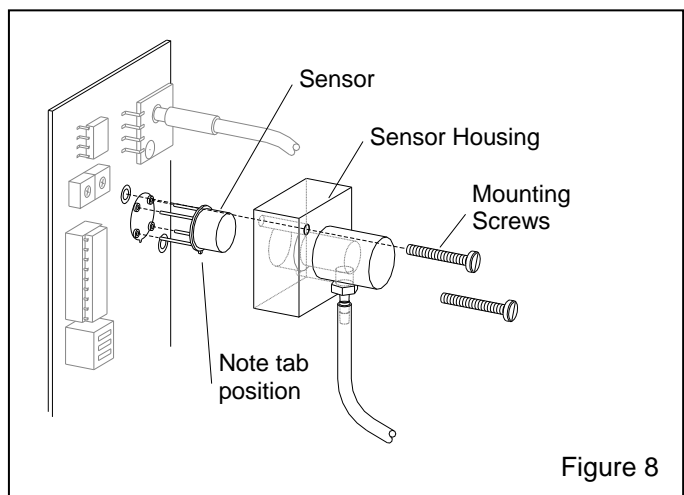

Figure 8
6.1.6 Locate the clear-plastic sensor housing, shown in Figure 8, and while supporting the circuit board, loosen the two mounting screws.
6.1.11 Handle the new sensor with care not to distort the pins. Rotate the sensor so the tab is in the same position as was the old one (as shown in Figure 8) and plug the pins into the socket, some pin alignment may be required, and is normal. Push firmly but carefully to seat the sensor. The sensor will stand off the circuit board by approximately 1/4" when seated.